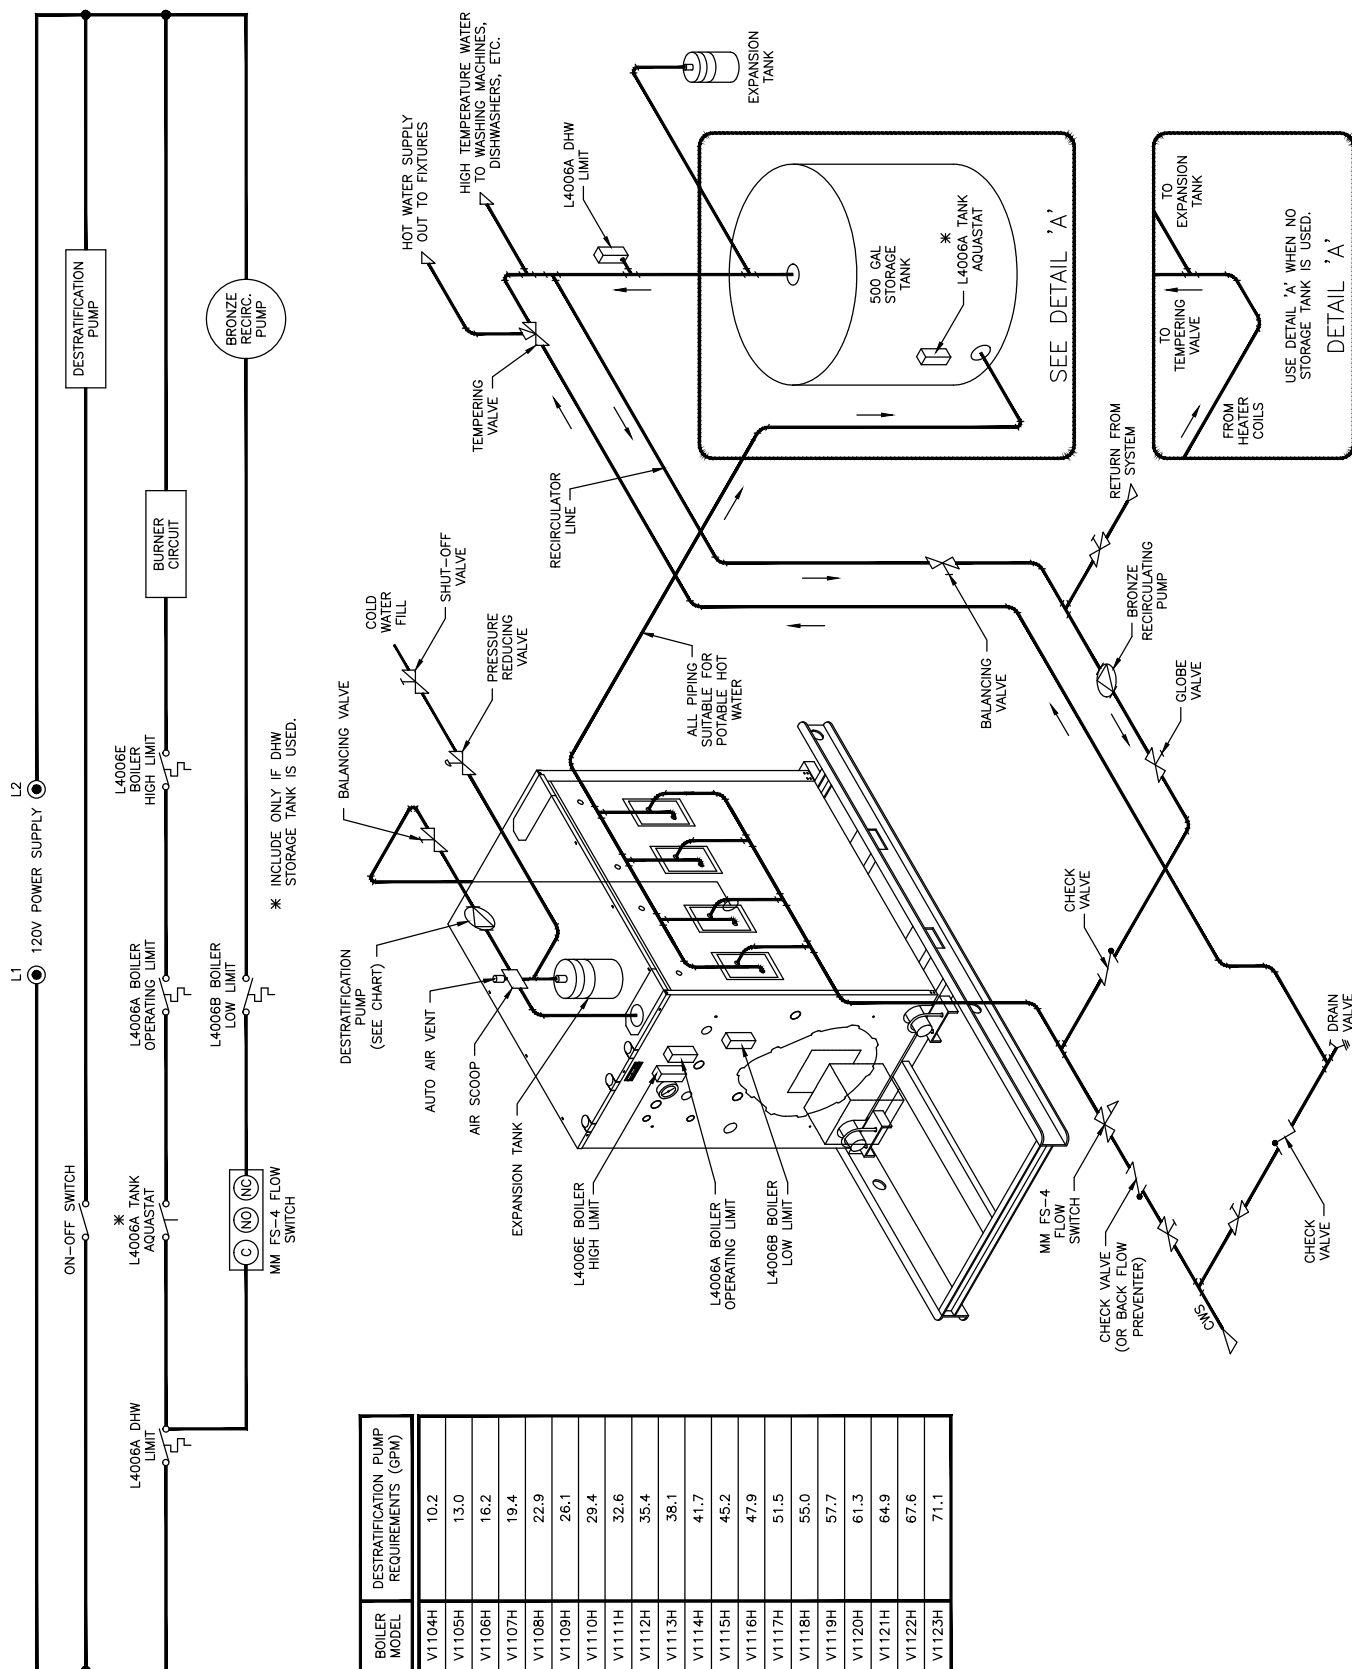

Figure 42a: DHW Generation with Tankless Coils, Storage Tank and Destratification Pump
2. **Hot Water Boiler/Tankless Coils/Storage Tank –** This application involves the use of several tankless coils piped in parallel, emptying into a large storage tank, and is typically used in larger DHW production applications, such as hotel showers and laundries. See Figure 42a for recommended piping and wiring details for this type of application. The tempering valve and recirculation loop are advantageous in these applications, because they provide both high temperature and tempered domestic water to the system, eliminating the need to purge and waste water until it reaches the desired temperature. In the case where the boiler is used for domestic production only, and there is no space heating involved, a destratification pump is utilized to provide flow within the boiler. This flow acts as a means of preventing the hot water from stratifying at the top of the boiler. Destratification pump flow rates are given in the table in Figure 42a.